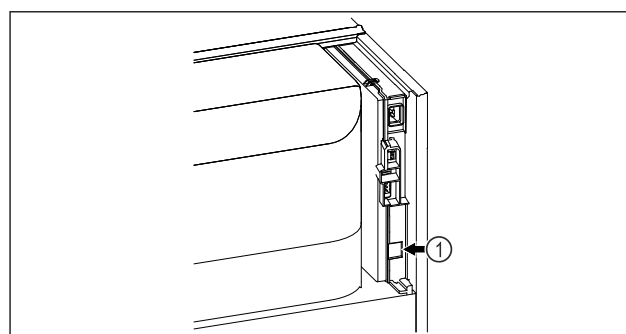

Fig. 138
- ❑ SmartModule *Fig. 138 (1)* is in use.